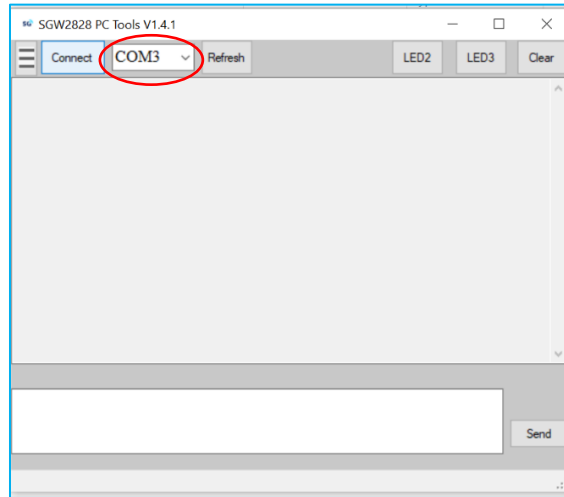

Figure 3: SGW2828-EVK PC Tool COM Port Selection and Connection
- Open up the SGW2828-EVK PC Tool. Choose the COM port number with the connected SGW2828-EVK and click 'Connect' (Figure 3).